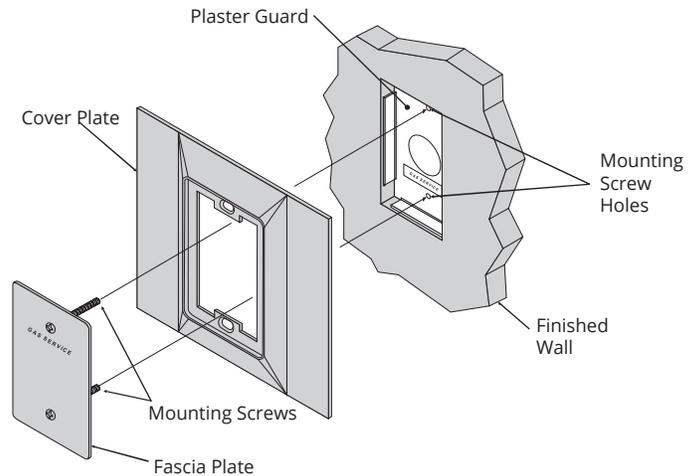

Figure 2.16 - Cover Plate, Fascia Plate Installation
- Align the fascia plate and the cover plate as shown in Figure 2.16.